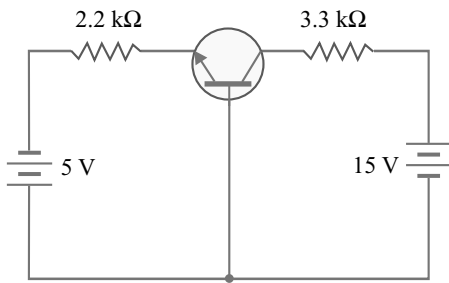

Fig. 6.77
10. For the transistor circuit in Fig. 6.77, find (i)  $I_C$  when  $V_{CB} = 10\text{ V}$  (ii)  $V_{CB}$  when  $I_C = 1\text{ mA}$ .